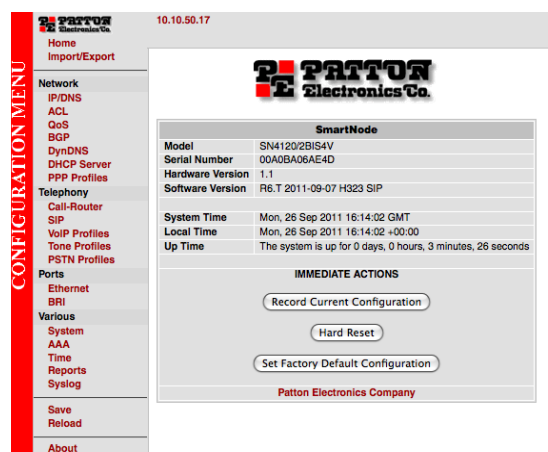

Figure 5. SN4120 home page
3. Enter the username *administrator*. Do not enter a password. Instead simply click OK. Your web browser will display the SN4120 home page (see figure 5).